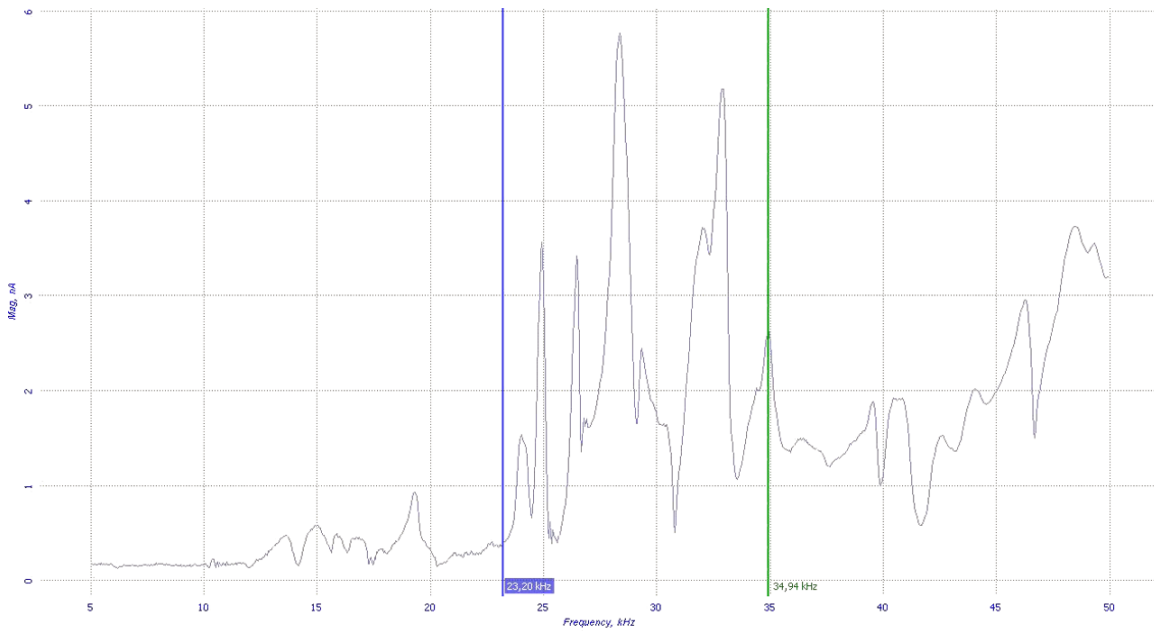

Fig. 3-12
8. Click **Run** button (on the left on the control panel) to obtain the frequency response of the cantilever oscillations amplitude (**Mag** signal). As can be seen in Fig. 3-12 the cantilever resonance curve in liquid contains numerous peaks.
- using the markers that appear on the plot (see Fig. 3-12).